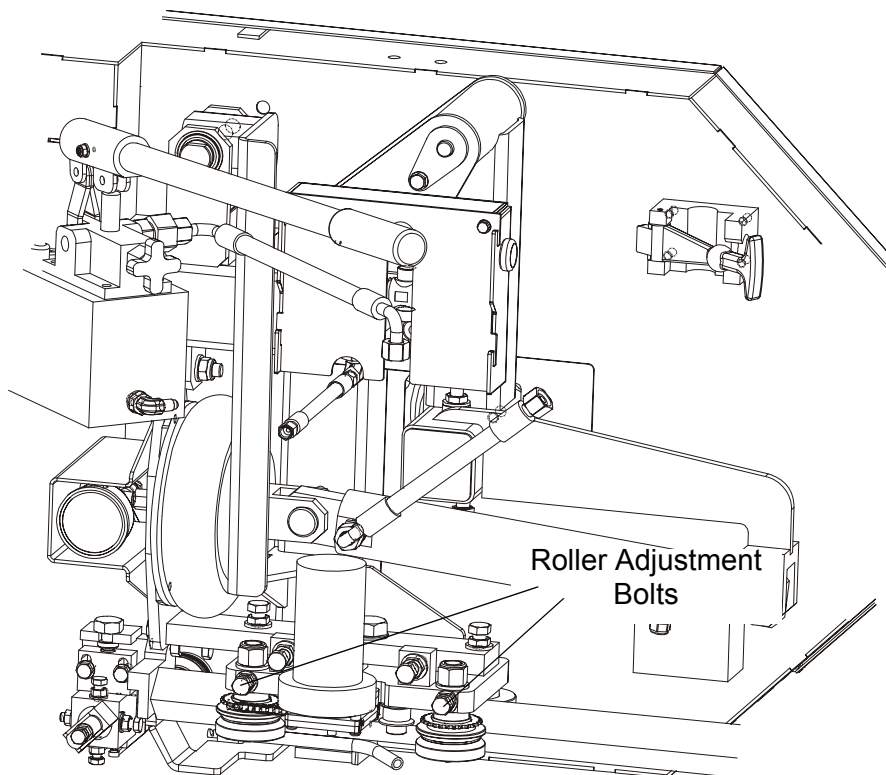

FIG. 7-27
**See Figure 7-27.** Loosen the jam nuts and turn the adjustment bolts in to tighten the blade guide arm rollers. Retighten the jam nuts.